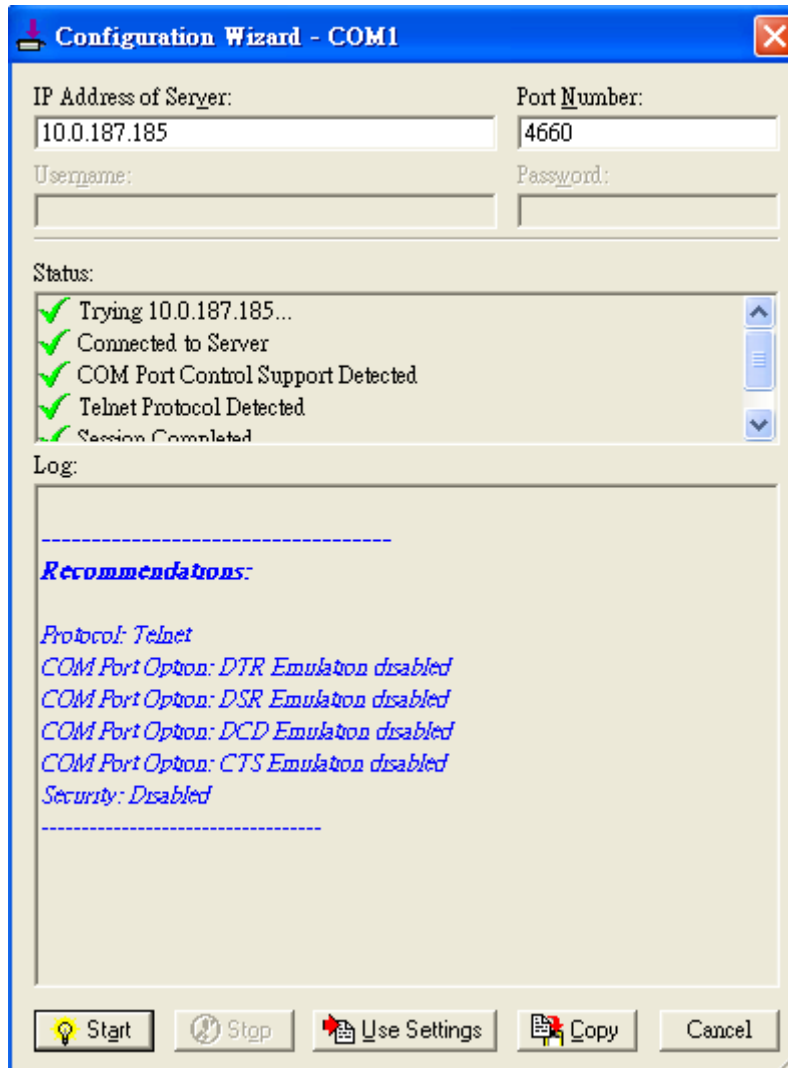

Figure 4.9 Configuration Wizard
5. To test the Virtual COM connection, click the Configuration Wizard button and then click **Start** button in the pop up window (Figure 4.9). If the test passes, all checks should be in green. To apply the changes in the Configuration Wizard window to the Control Panel, click on **Use Settings**. Click on **Copy** to copy the results to the system clipboard.